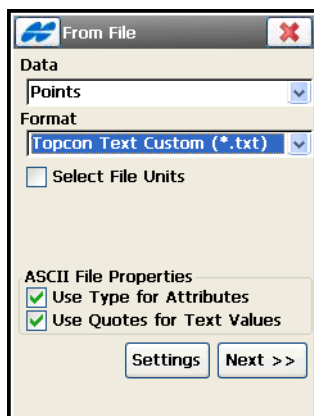

Figure 5-11. From Text File
1. If data type is Points or Point Lists, select the point type to import from the *Data* drop-down list (Figure 5-11). If the Text file type is chosen, check the *ASCII File Properties* field buttons, if necessary. These conditions use the same type attributes and quotes for the text values.